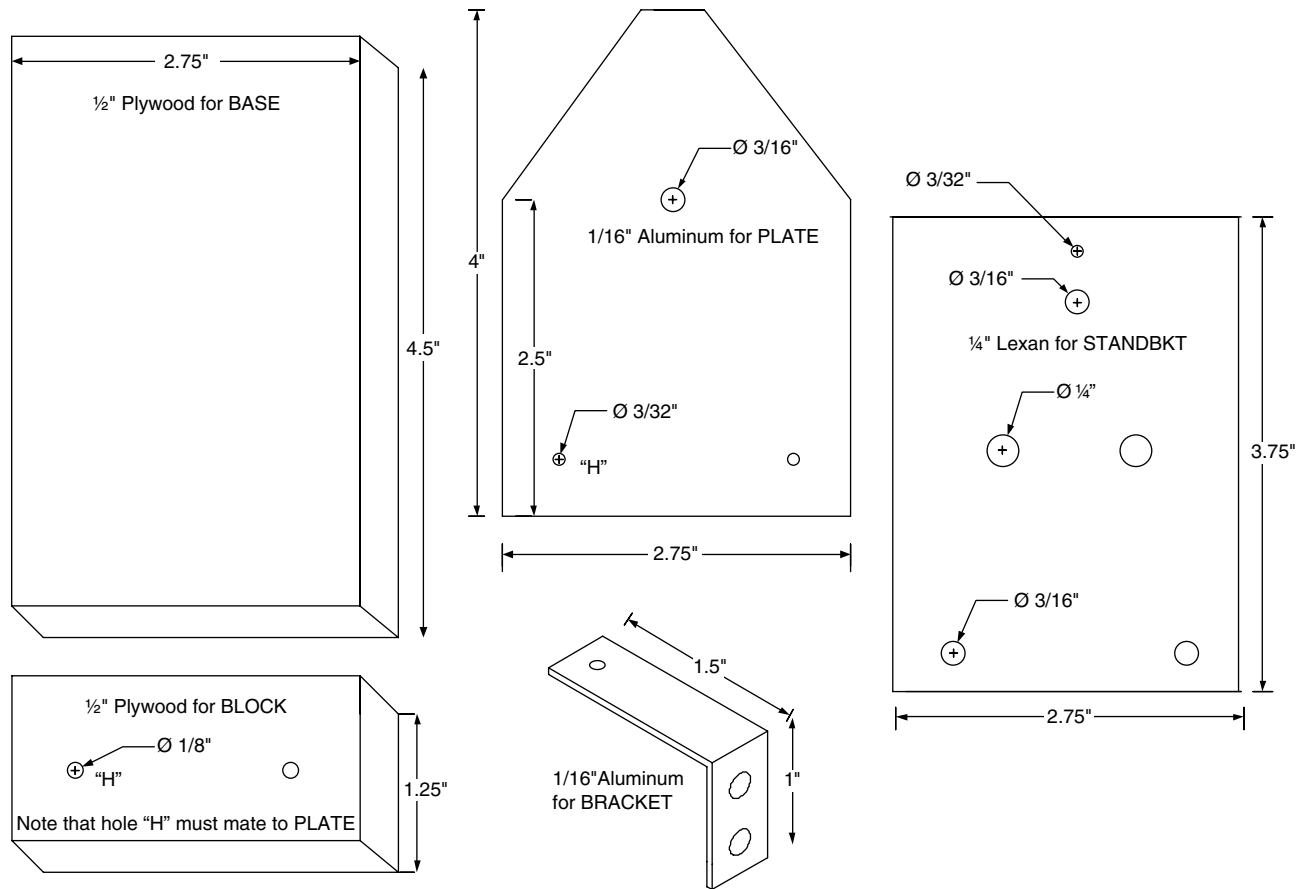

Figure 3-2 Base and brackets fabrication.
1. Fabricate the parts as shown in Fig. 3-2. The dimensions as shown are for the parts we used.